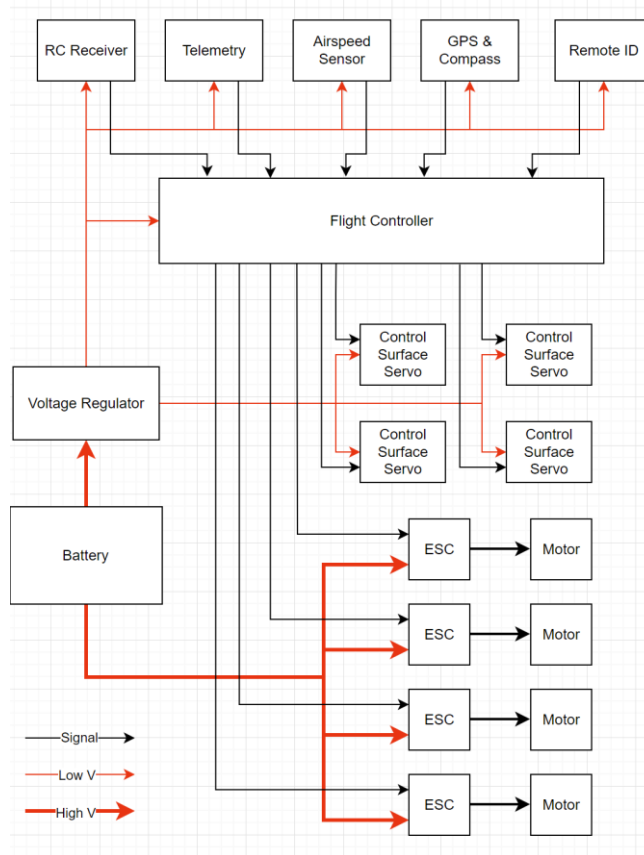

Figure 1. Example Wiring Diagram (Generalized Aircraft, and Missing Multiple Other Required Components)
- An example diagram is shown in Figure 1 below.